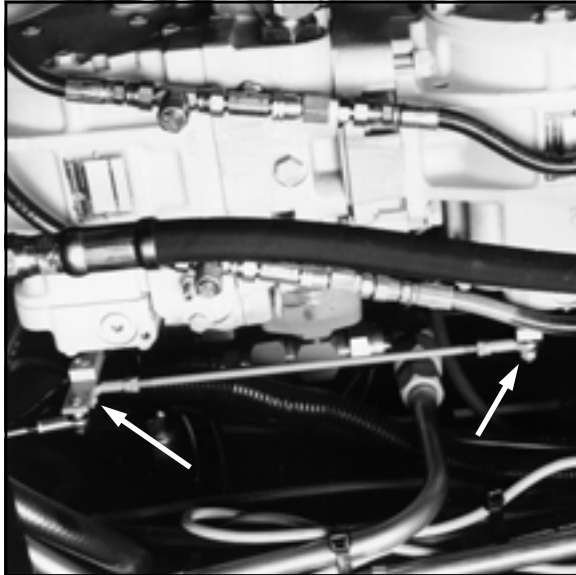

FIG 8.48
**NEUTRAL SETTING** - When the hydrostatic lever is in the neutral position, the machine should not be moving in either direction. If it does, the neutral setting of the lever (fig. 8.48) on the hydrostatic pump needs to be adjusted. See accompanying pump manual.